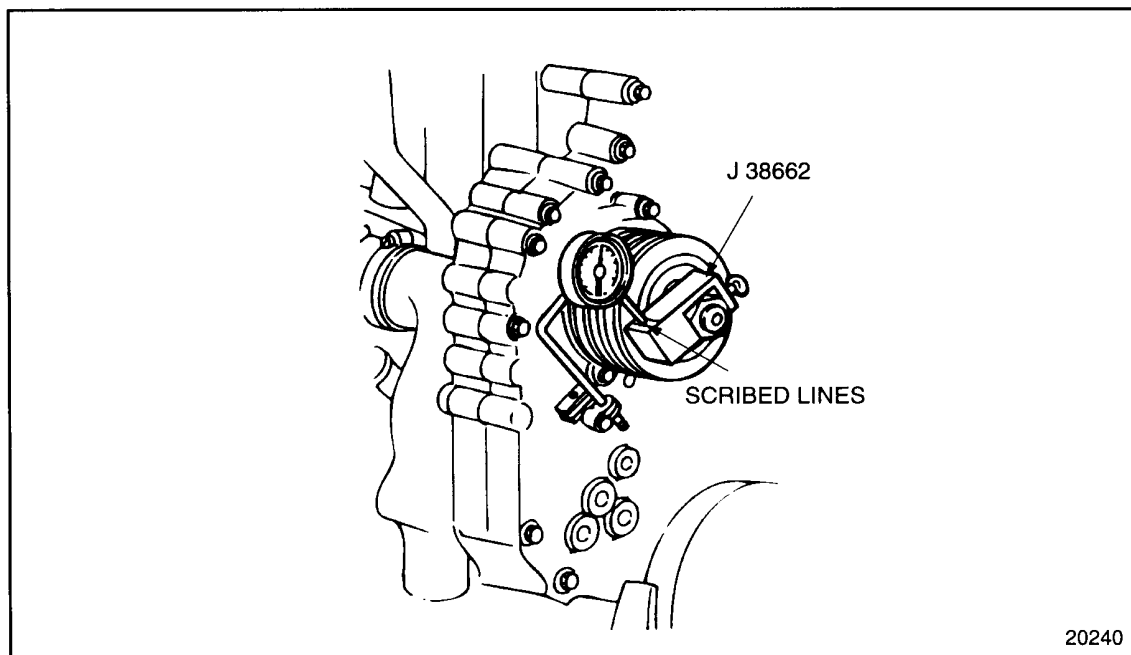

Figure 1-285 Accessory Drive Gear-to-Bull Gear Lash Measurement
See Figure 1-285.
- [b] Install the gear lash tool J 38662. See Figure 1-285.